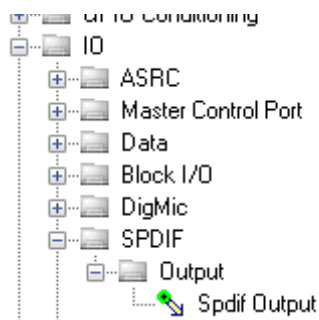

Figure 47. Adding a **Spdif Output** Component
11. Add two S/PDIF output blocks, **SpdifOut1** and **SpdifOut2**, to the project by clicking the **Spdif Output** component (see Figure 47), and then dragging it to the project space.